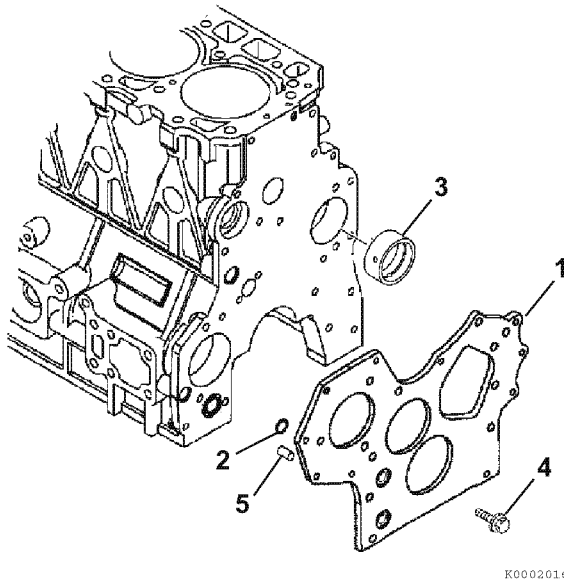

Figure 6-99
6. **TNV84 - TNV88:** Remove the O-ring (2, **Figure 6-99**) and dowels (5, **Figure 6-99**).